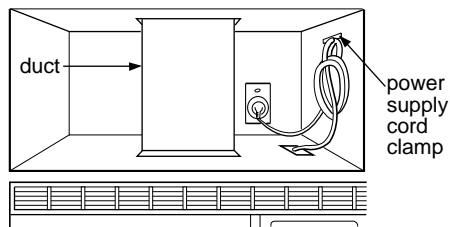

Figure 37
7. Roof venting installation: Install ductwork through the vent opening in the upper cabinet. Complete the venting system through the roof according to the method needed. See Figure 37. See PREPARE THE VENTING SYSTEM, STEP 2 on the page 8. Use caulking to seal the exterior roof opening around the exhaust cap. See Figure 6 on page 8.
8. Use the power supply cord clamp to bundle the power supply cord. Install the power supply cord clamp, using a screw as shown in Figure 37, to inside of the cabinet.